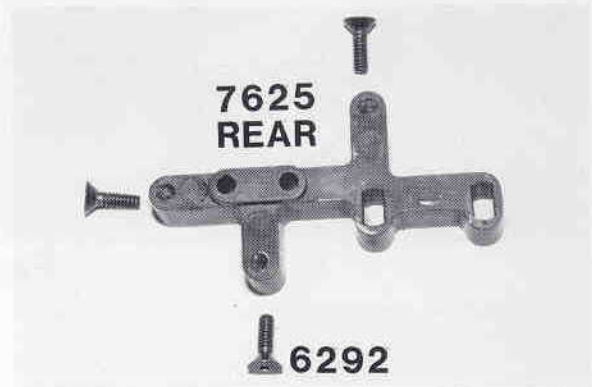

Fig. 102
□ **Figs. 102, 103, 104 & 104A** Open the engine mount bag #7-16 and take out the two #7625 black engine mounts. Also take out three #6292 4-40 x 3/8" FHSScrews. Fig.102 shows the rear engine mount and the three #6292 FHSScrews used to mount it to the chassis. Fig. 103 shows the rear mount installed on the chassis. Figs. 104 & 104A show the three #6292 screw mounting locations.
□ **Figs. 108, 109 & 109A** Remove the #7625 front black engine mount that we set aside in fig. 102, and four #6292 4-40 x 3/8" FHSScrews from bag #7-16. Fig. 109 shows the #7625 front engine mount installed.